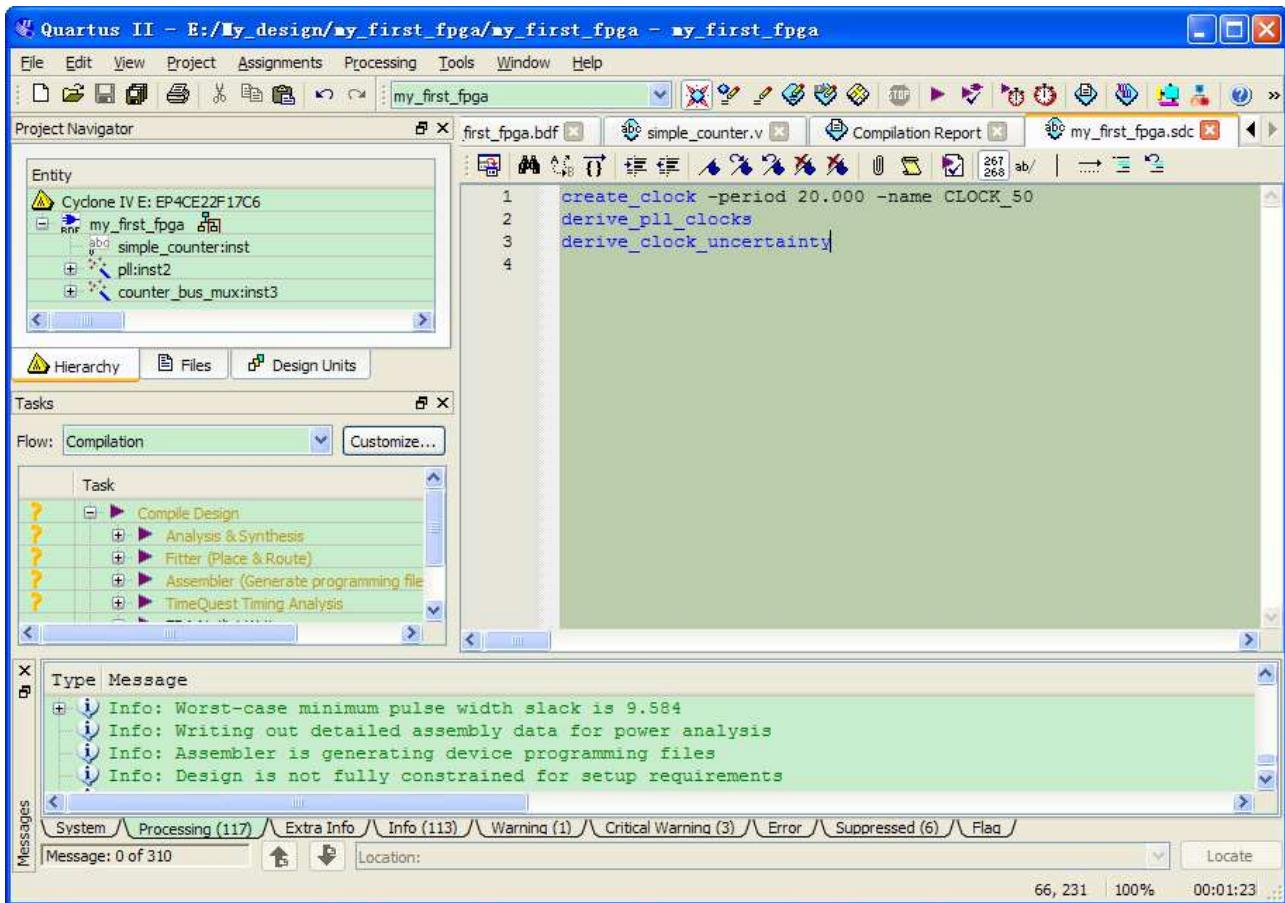

Figure 6-43 Default SDC
4. Save this file as my_first_fpga.sdc (see **Figure 6-43**)